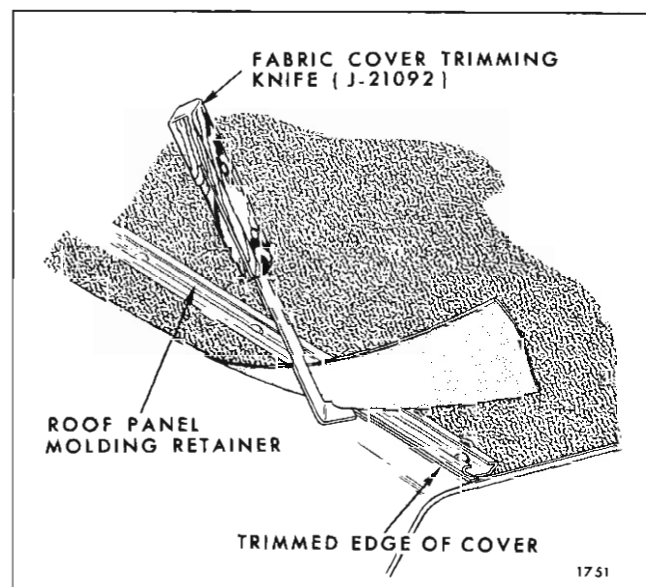

Fig. 1J6—Trimming Fabric Roof Cover
18. Trim fabric cover along roof panel molding retainers. (See Fig. 1J6). Trimming tool (J-21092) or suitable small knife may be used to trim cover. (See Fig. 1J4). Do Not Damage Paint Finish. At front corners, raise cemented edge of cover and using scissors or sharp knife cut radius so roof panel moldings cover cut edge. Recement fabric cover to roof panel. (See View A, Fig. 1J5).
If it is necessary to trim material from outer edge of fabric cover around back window opening, raise cemented edge and cut as required. Edge of fabric cover should exist as shown in View F, Fig. 1J5. Do Not Damage Paint Finish. Remove masking from roof panel.